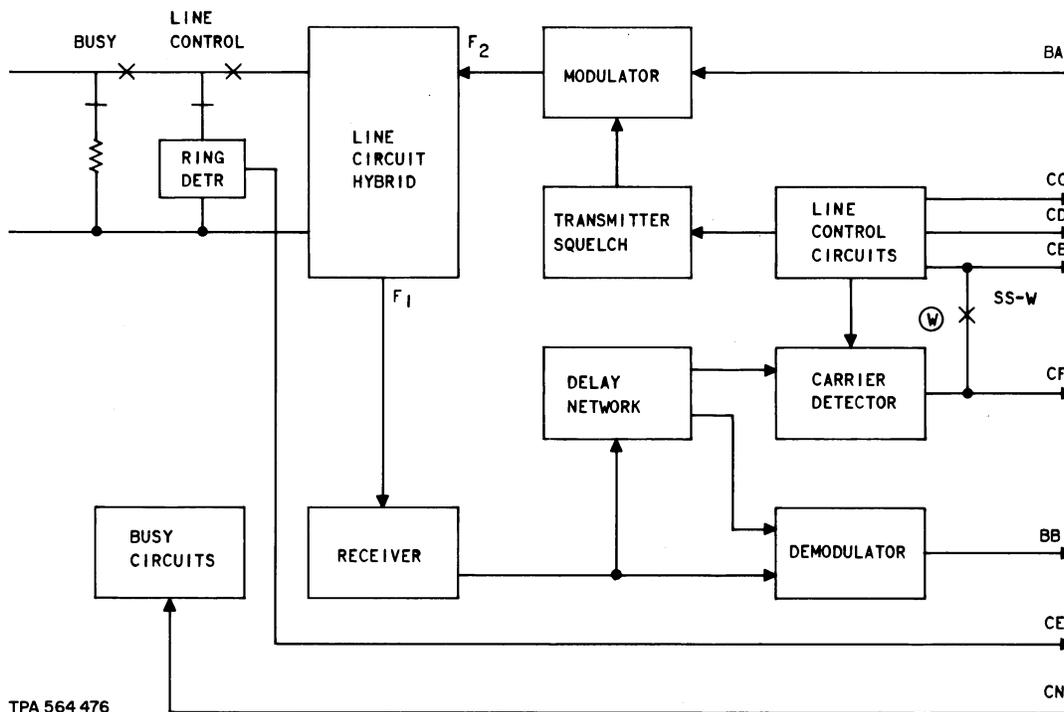

Fig. 6—Data Set 113B-L1—Block Diagram
3.14 The frequencies used by Data Set 113B-L1 along with the corresponding MARK and SPACE of each are shown in Table B. Since the data set is permanently in the answer mode, it will always receive data in the f1 band and transmit data in the f2 band. A block diagram of Data Set 113B-L1 is shown in Fig. 6.